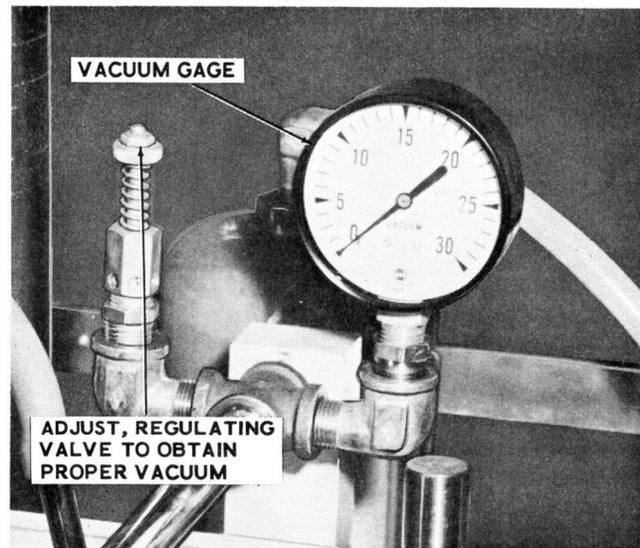

Figure 4-9. Regulating Vacuum
h. Check vacuum gages for proper reading as established for the pouch being run. Adjust regulating valve (Figure 4-9) as necessary to obtain proper vacuum.